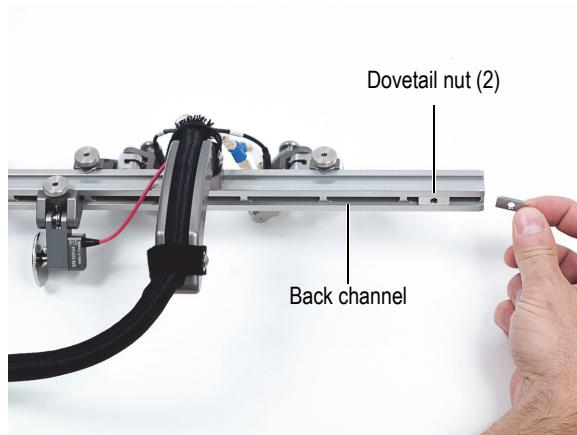

Figure 1-21 Inserting dovetail nuts in the frame bar back channel
2. Remove both dovetail nuts from the frame bar, and then insert them in the back channel (see Figure 1-21 on page 34).